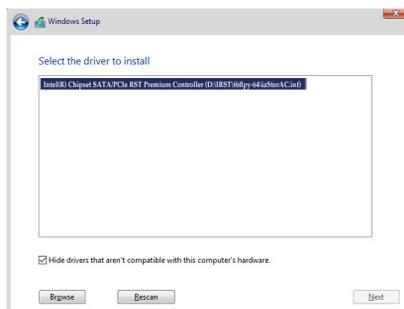

Figure 1
Then browse to the USB flash drive and select the location of the driver. Select **Intel(R) Chipset SATA/PCIe RST Premium Controller (I:IRST\rdpy_sataSataC.inf)** and click **Next** to load the driver and continue the OS installation. (Figure 1)